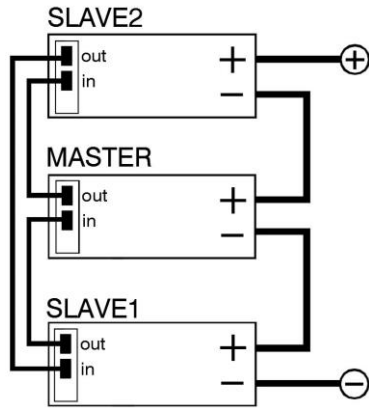

Figure 6.5: Optional Master/ Slave series-connected operation
- For easier control, the optional Master/Slave interface is recommended, see Figure 6.5.